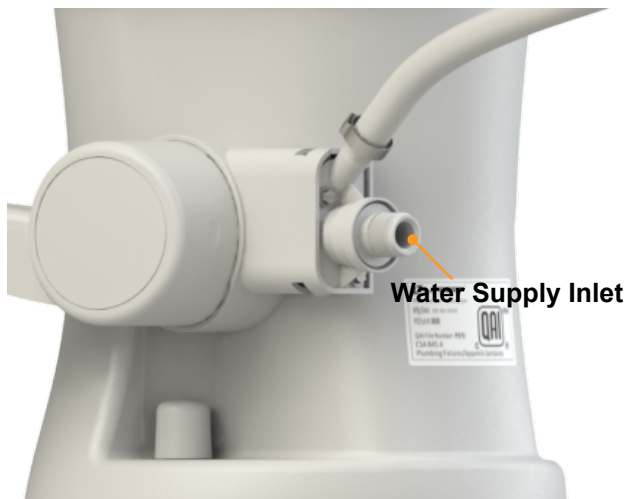

Fig.6
8. Connect the water supply line and torque the connection to 30–40 in-lb. Do not over-tighten. If the water supply line comes out of the floor, install a ½ in. (13 mm) elbow fitting or adapter (Fig. 6).